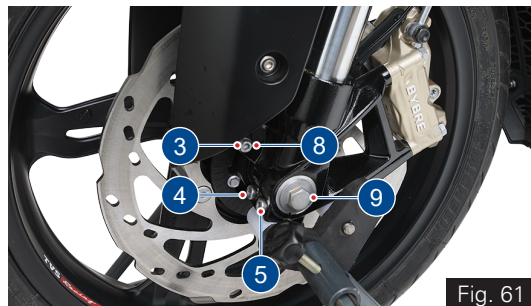

Fig. 61
- Remove the locking screw (3) (ref. Fig. 61).
- Loosen the right side clamping screws (4) and (5).
- Slightly press the quick-release axle (6) inward for a better grip on the right side.
- Mount the front wheel stand again and install the locking screw (3) with specified torque (ref. Fig. 61).